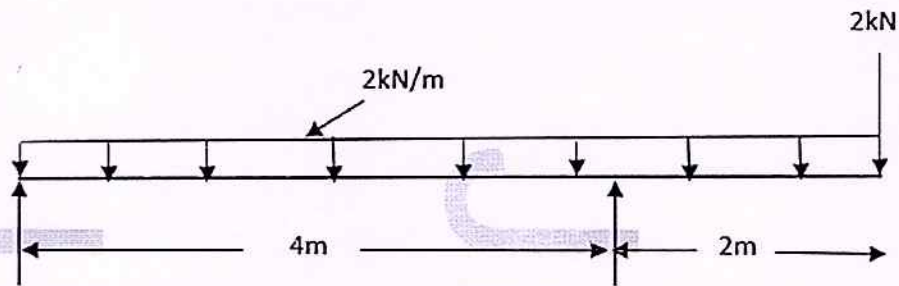

Fig.5
- 16 Draw the shear force and bending moment diagram of the overhanging beam shown in Figure 5. Clearly indicate the point of contraflexure, 14